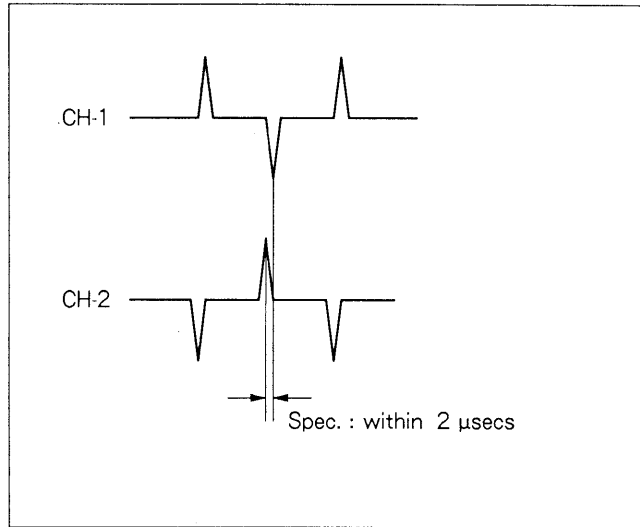

Fig. 9-8-2. Audio Monitor Head Azimuth Check
- (2) Set the time base of oscilloscope to 1 μ secs.
- (3) Check that the phase difference between CH-1 and CH-2 is within the specification shown in Fig. 9-8-2. If not, perform step 3 "Audio Monitor Head Azimuth Adjustment" in section 9-8-2.